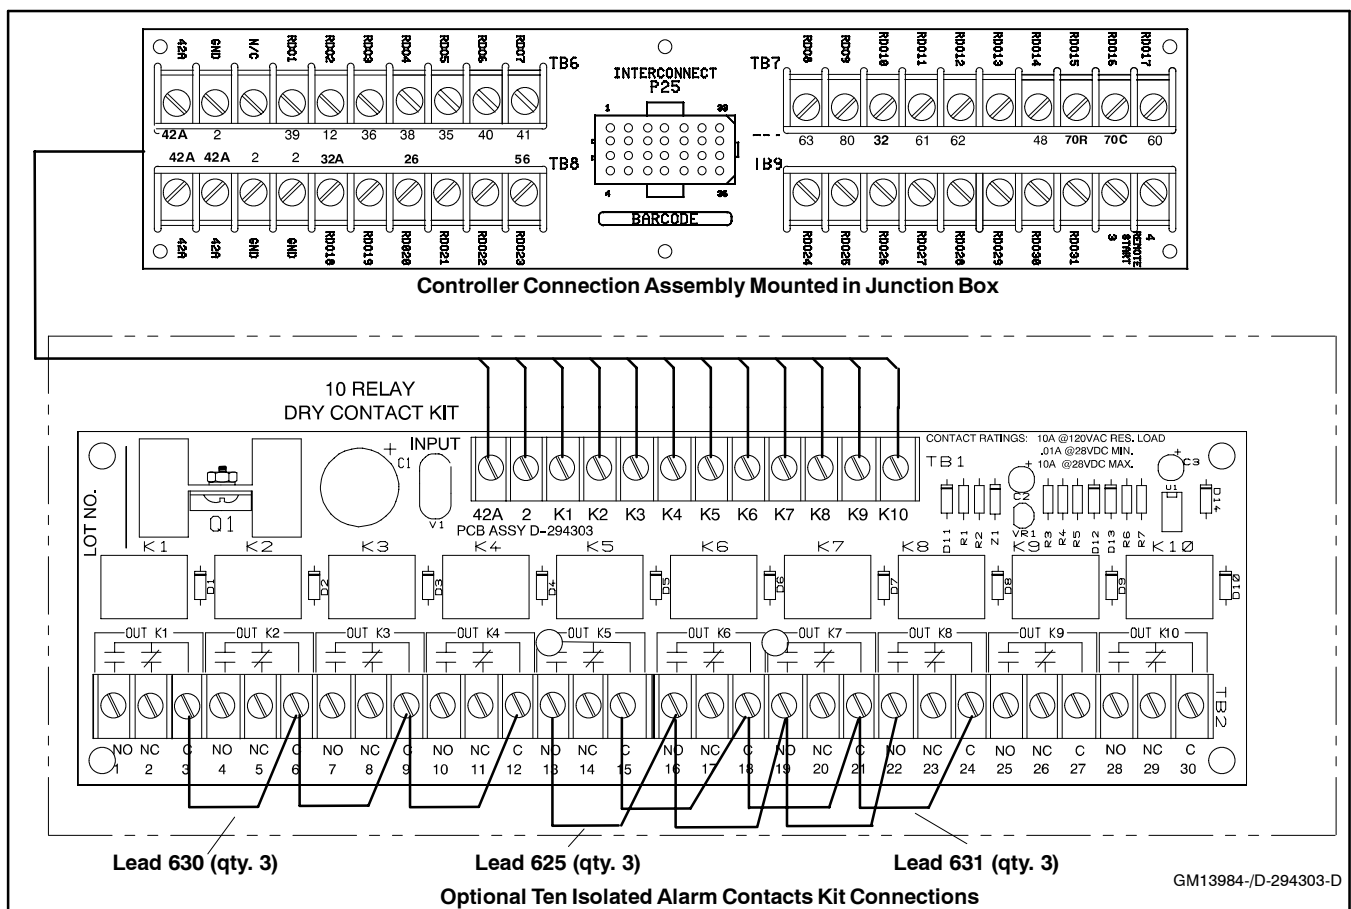

Figure 13 Wiring Harness GM10181 Connections for Switchgear Applications
365569-KP11 kit only (450–2000 kW). Install the 9-lead dry contact wiring harness (GM10181) to electrically connect relay common (C) terminals together for switchgear applications. See Figure 13. Remove the 9-lead dry contact wiring harness (GM10181) for non-switchgear applications.